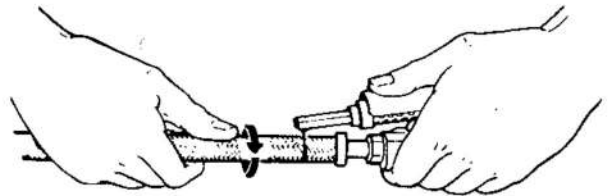

Fig. 18
22.6 As the hot wire melts through the chafe guard rotate the hose slowly through 360° (fig 18).